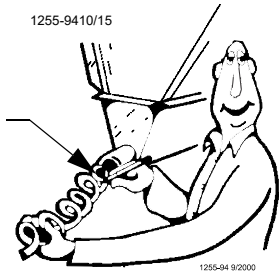

Figure 27. Marking the
7. Pull the auger at the boot end until it begins stretching then let it relax. In the relaxed position, mark the auger at the end of the boot. See Figure 27.